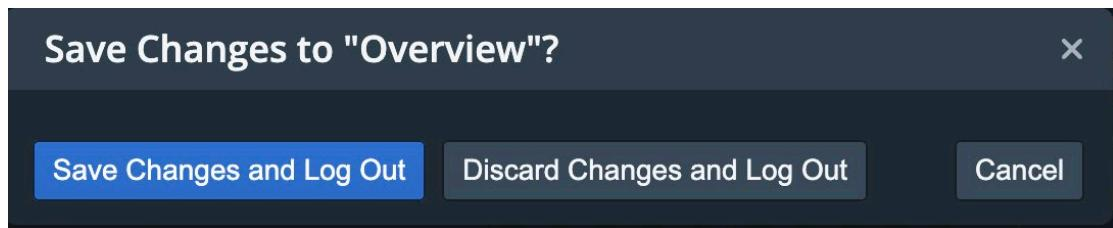

Figure 13. Log Out Menu Options.
- 7) Log Out – Logs the user out of the SOH UI. If any changes were made to the open workspace layout, the user will be prompted to save or discard the changes before logging out (see Figure 13). A tooltip providing a brief description of each option can be brought up by hovering the cursor over the desired option.